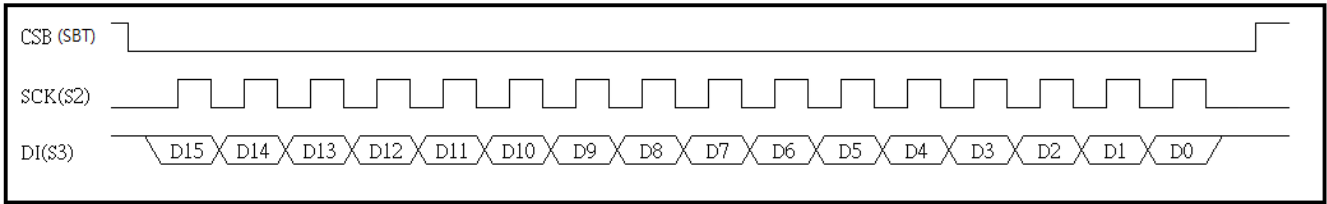
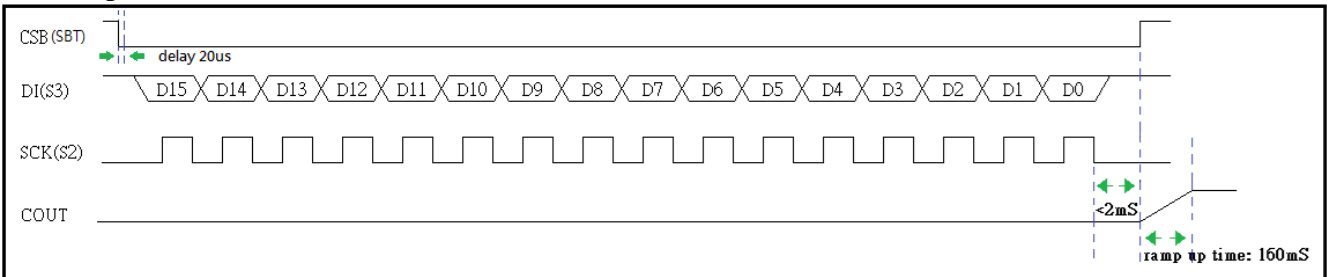
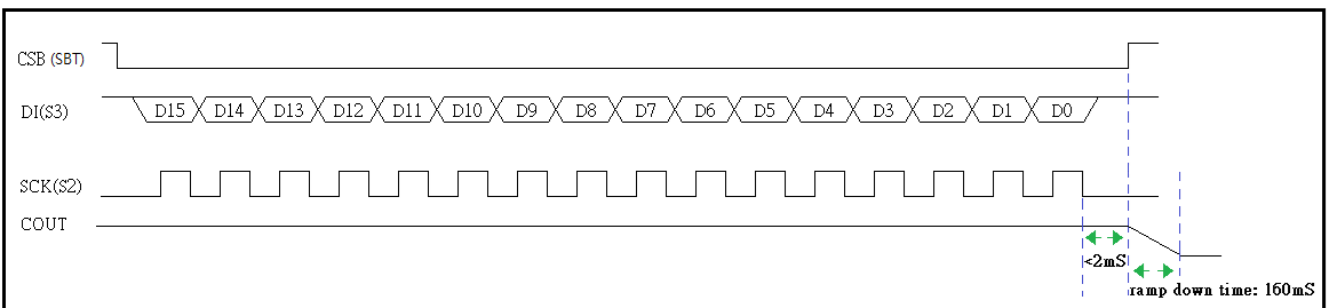

Fig.10 SPI Command timing
Fig. 11 Power-Up command timing
Fig. 12 Power-Down command timing
- (1). Load Voice Group Address :
- a. Command timing reference Fig.10 SPI Command timing.
- (2). Play Voice Group Address :
- (3). Power up with RAMP-UP(PU2) or without RAMP-UP(PU1) :
- a. Command timing reference Fig. 11 Power-Up command timing.
- (4). Power-down with RAMP-DOWN(PD2) or without RAMP-DOWN (PD1) :
- a. Command timing reference Fig. 12 Power-Down command timing.
- (5). Volume Set (VOL[3:0]) :
- (6). Volume ++ (VOL++) :
- (7). Volume -- (VOL--) :
- (8). Pause and Resume (PAUSE; RESUME) :